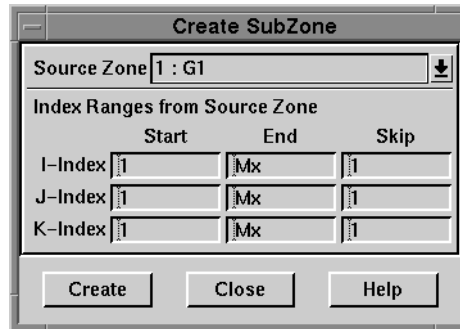

Figure 21-8. The Create SubZone dialog.
1. From the Data menu, choose Create Zone, then choose SubZone. The Create SubZone dialog appears as shown in Figure 21-8.